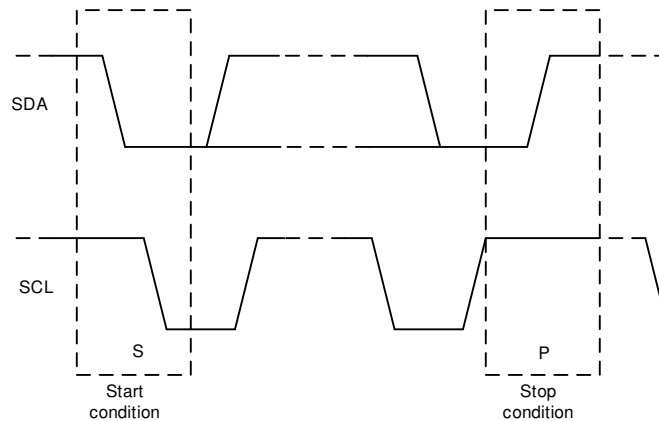

图 60. Start and Stop Conditions
1. The master initiates data transfer by generating a start condition. The start condition is when a high to-low transition occurs on the SDA line while SCL is high, as shown in 图 60. All I²C-compatible devices recognize a start condition.
4. To signal the end of the data transfer, the master generates a stop condition by pulling the SDA line from low to high while the SCL line is high (see 图 60). This action releases the bus and stops the communication link with the addressed slave. All I²C-compatible devices recognize the stop condition. Upon receipt of a stop condition, the bus is released, and all slave devices then wait for a start condition followed by a matching address.